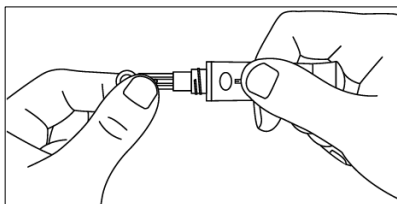

Fig 5.30
Step 2: Insert a sterile lancet into the lancet holder and push it until stop in the lancet holder (Ref Fig 5.30)